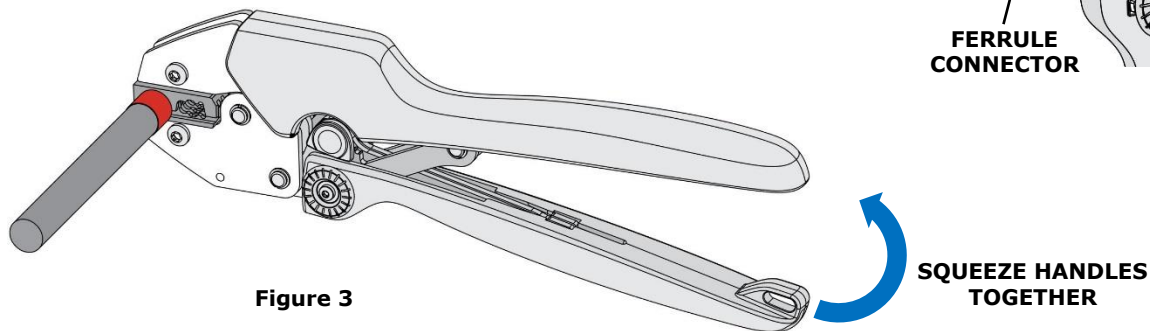

Figure 3
3. Partially close the tool to hold the ferrule connector in place. Verify that the wire is properly inserted into the connector. See Figure 3.